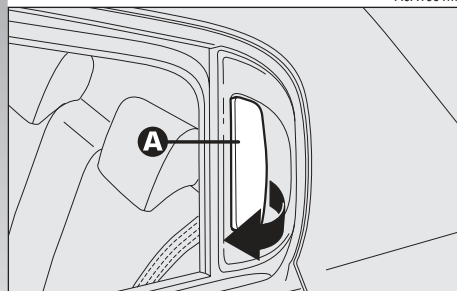

fig. 10
- To open the door, deactivate the centralized locking and pull the handle (**A-fig. 10**).